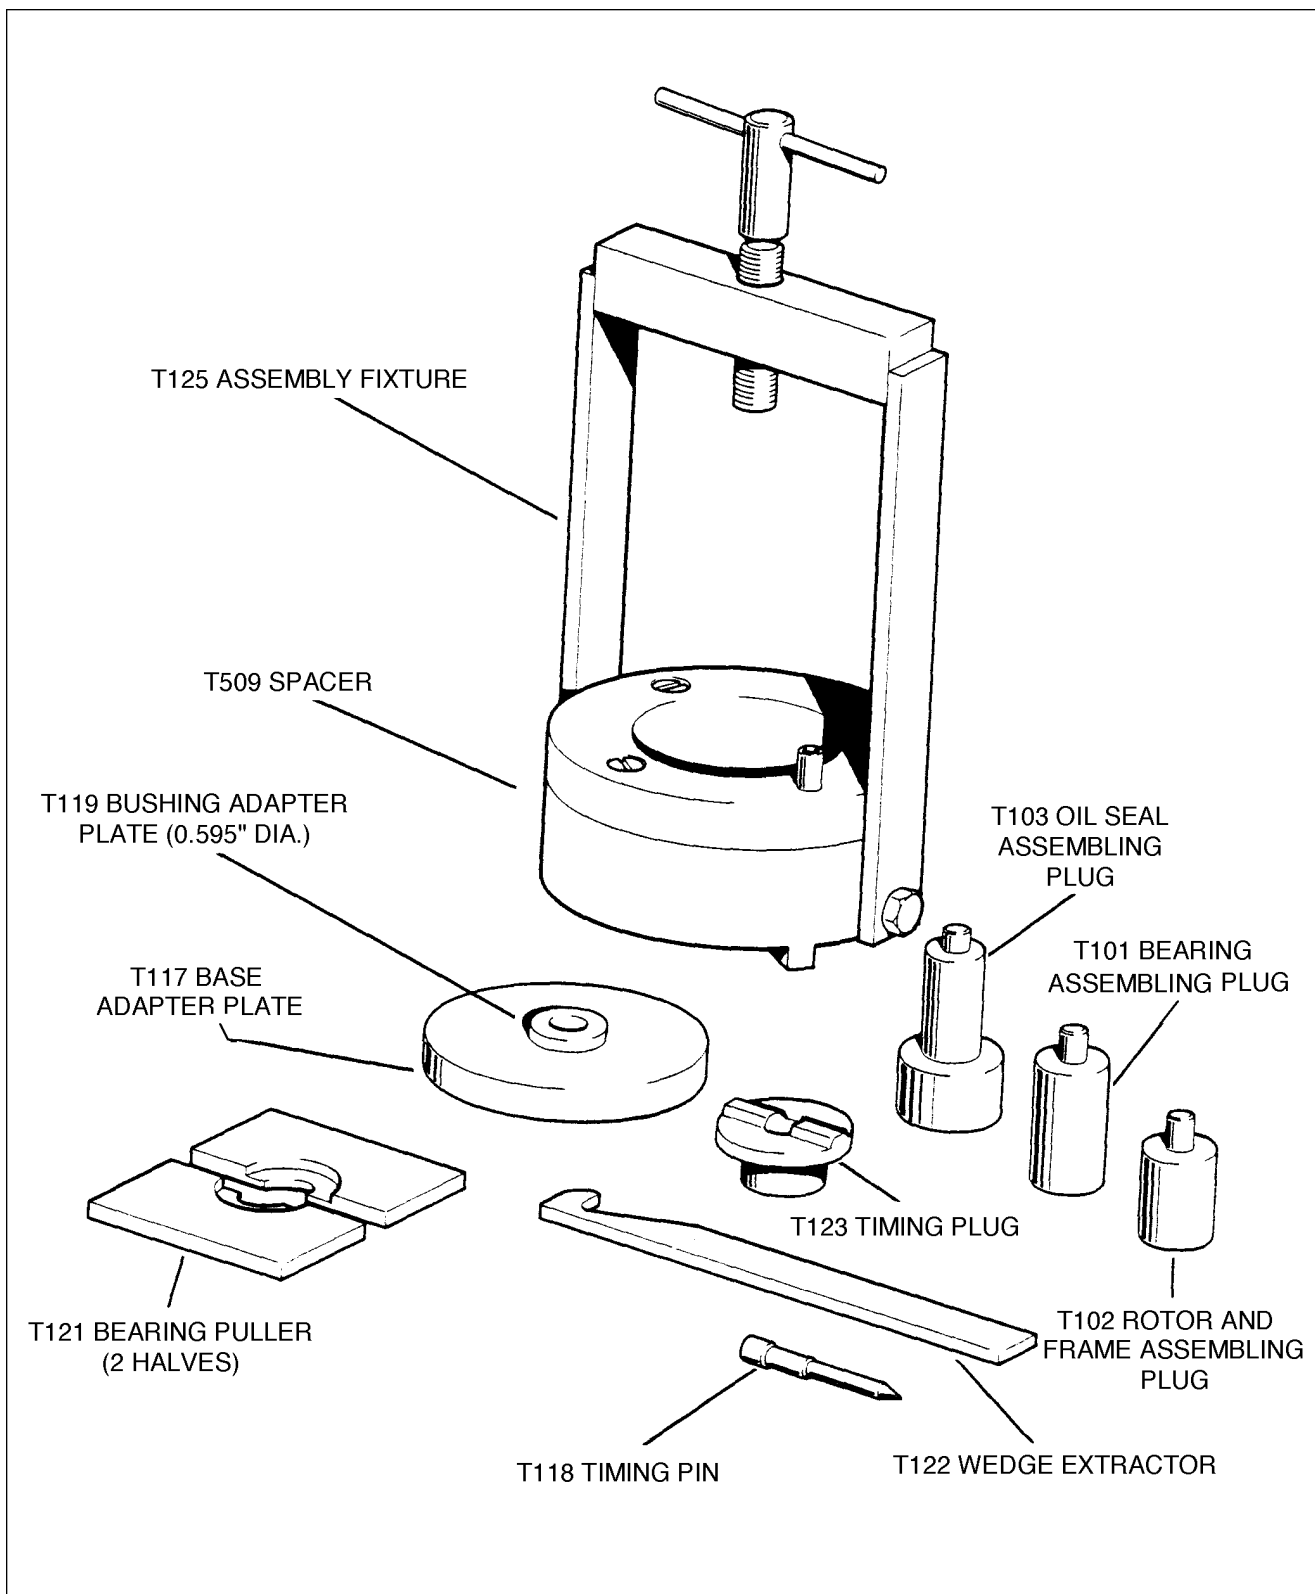

Figure 8-8. T-100 Assembly and Timing Tool Kit
*Although not required use of the slick T-100 assembly and timing kit is strongly recommended. (Refer to Figure 8-8.)
a. Insert the T-118 timing pin (refer to Figure 8-8) in the L or R hole in the distributor block (depending on rotation of the magneto).